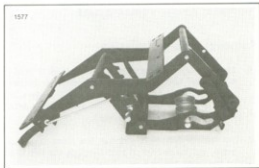

Figure 2-113. Suspension Frame
1. See Figure 2-113. Reassemble the frame members as shown if disassembled.